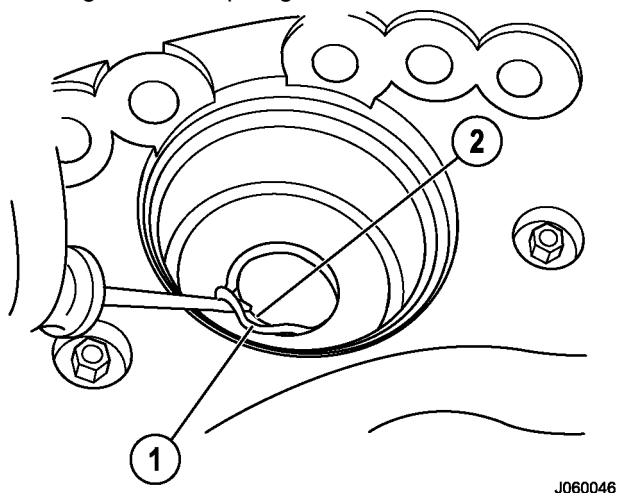

FIGURE 50-43. PARKING PISTON O-RING
- 17. Use a suitable tool to remove 63.5 mm (2.5 in.) diameter O-ring (1, Figure 50-43) and backup ring (2) from the caliper housing. Discard the O-ring and backup ring.